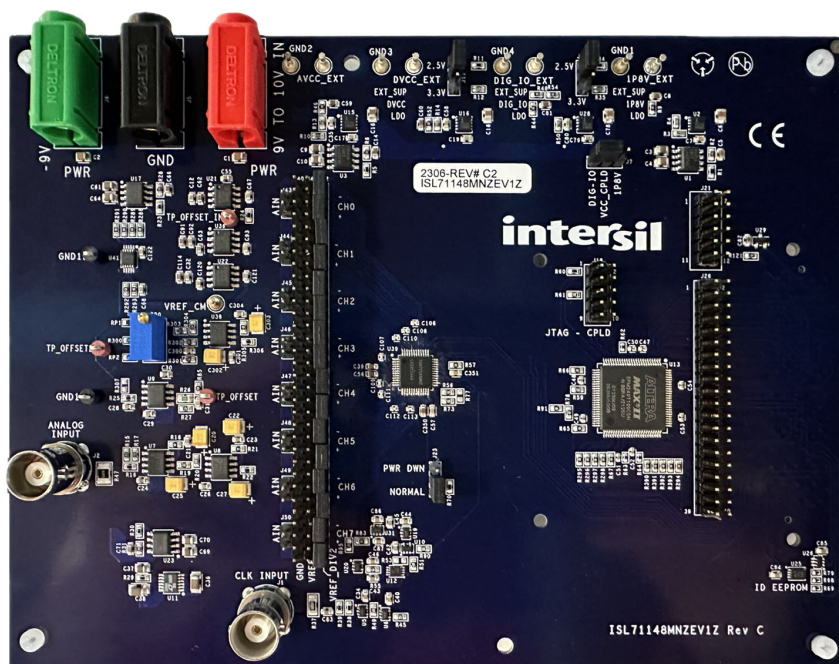
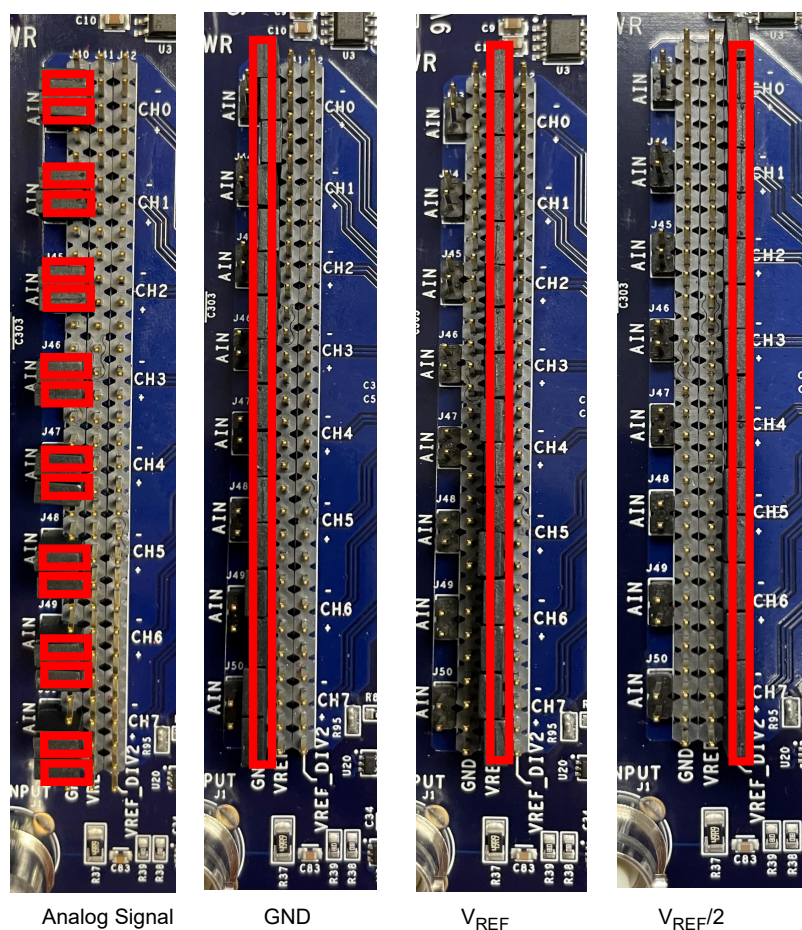

Figure 2. ISL71148MNZEV1Z Evaluation Board Jumper Location
Figure 3. Jumper Position for Channel Input Selection
Figure 2 shows the location and position of the jumpers on the ISL71148MNZEV1Z board. The default horizontal jumper positions for channels 0 through 8 select the analog signal as the input. These channels can also be set to GND, VREF, or VREF/2 by placing the jumpers vertically at one of the pin columns (Figure 3).
4. Ensure the jumpers are placed on the ADC evaluation board (Figure 2).